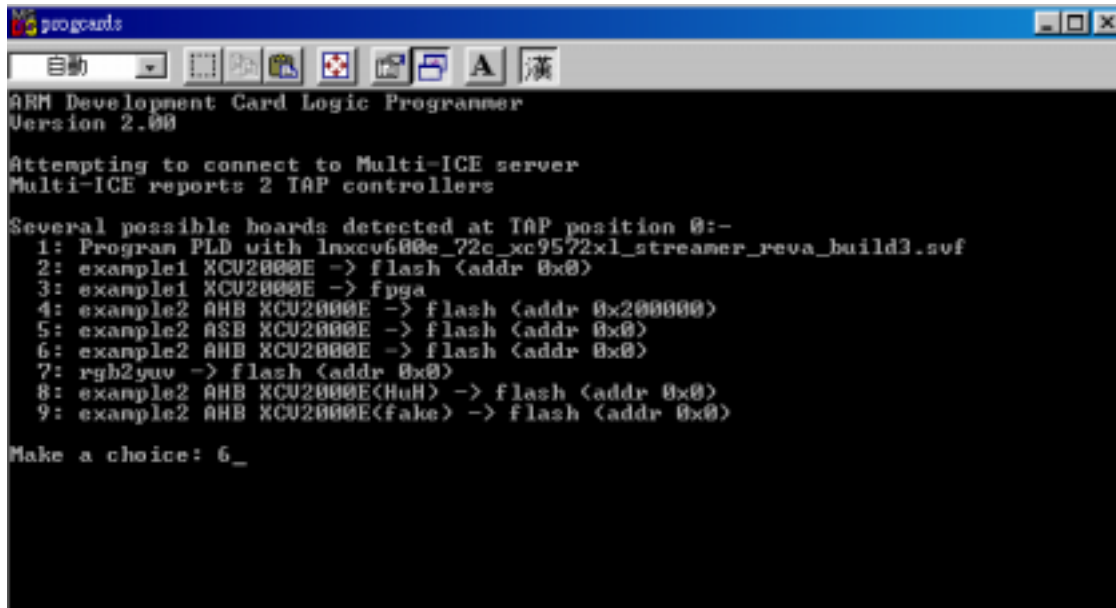

Figure 8 A window that execute progcrd.exe
- Execute the progcrd.exe, it will open a window like Figure 8. Choice 6